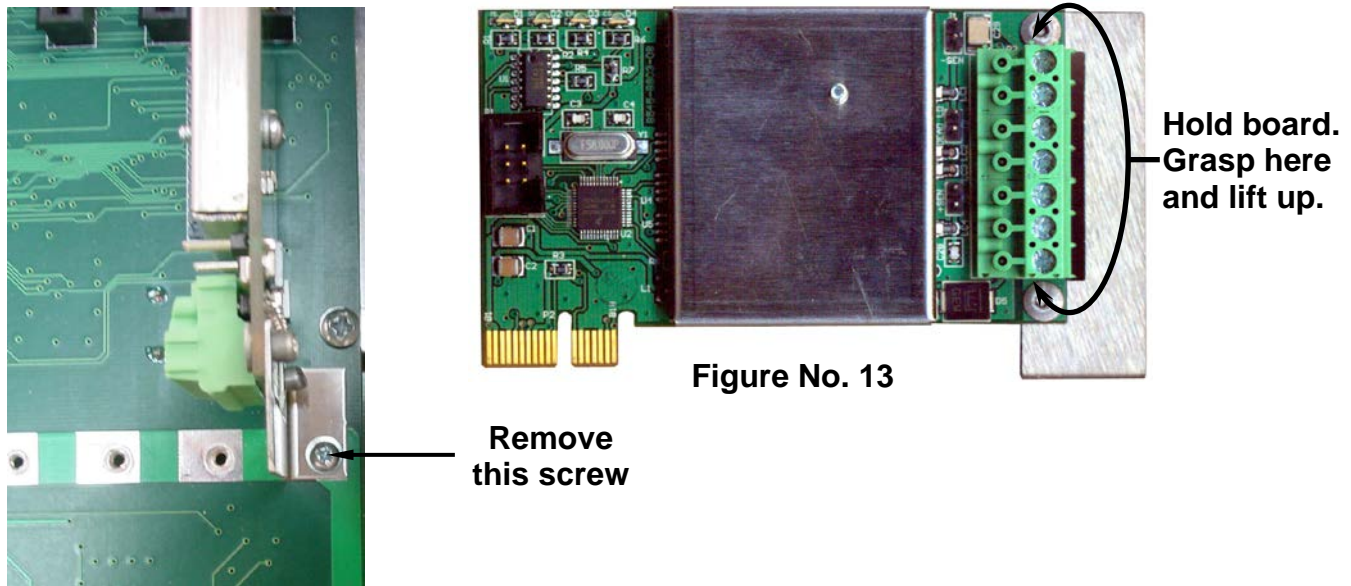

**Figure No. 10**
3. Referring to Figure No. 10, route the single cable from the load cell or load cell junction box through the nut and plastic insert and into the base enclosure.